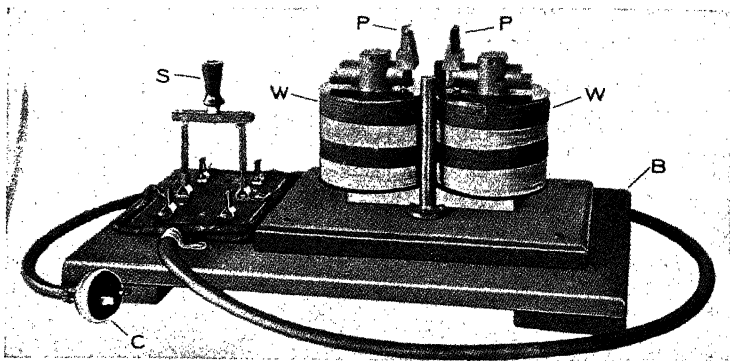

FIG. 46.—Apparatus for remagnetizing compass magnets.
If compass magnets are to be remagnetized, a magnetizing apparatus is needed in addition. This is seen in Fig. 46. It has a base *B*, two windings *W*, a switch *S*, and a connection *C* for 120 volts d.c. Special pole pieces *P* are used for different designs of compass magnets.
*Remagnetizing the Magnetic Unit.*—If the test for the period gave a time longer than the limit in Table 7, the magnets are not strong enough. Put the magnetic unit on the apparatus (Fig. 46) with the magnets placed so that